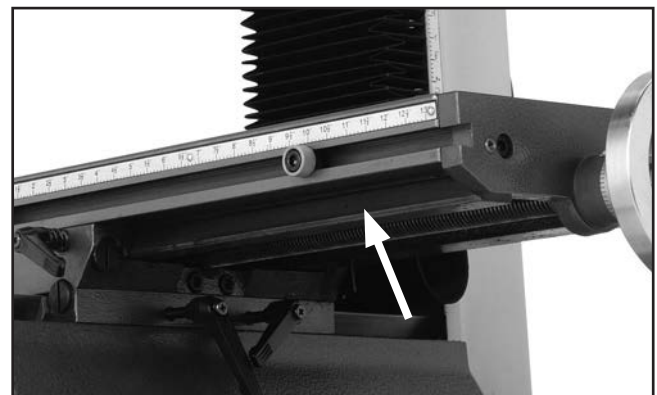

Figure 50. Longitudinal leadscrew location.
9. From beneath the table, use mineral spirits and a brush to clean as much of the existing grease and debris as possible off of the longitudinal travel leadscrew shown in **Figure 50**. Allow the leadscrew to dry.